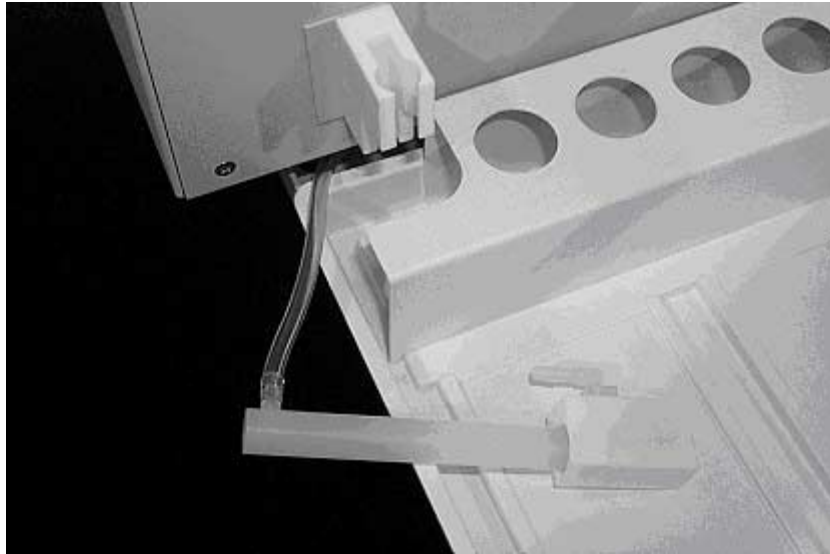

**Figure 1-3.** Z-drive removed from arm assembly.
2. Next, remove the whole Z-drive assembly from the arm by pulling the whole Z-drive assembly forward and off the Auto Sampler arm. See Figure 1-3.